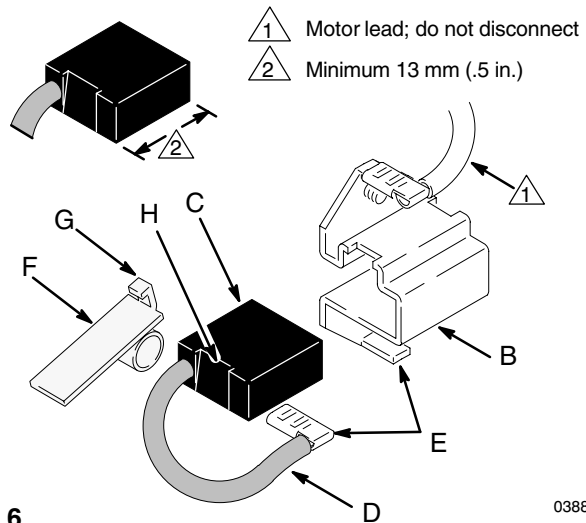

Fig. 6 03881
3. Push in spring clip (F) and release hooks (G) from brush holder (B). Pull out spring clip. See Fig. 6.
6. Place a new brush (C) in holder (B) so ramp (H) faces spring. See Fig. 6.